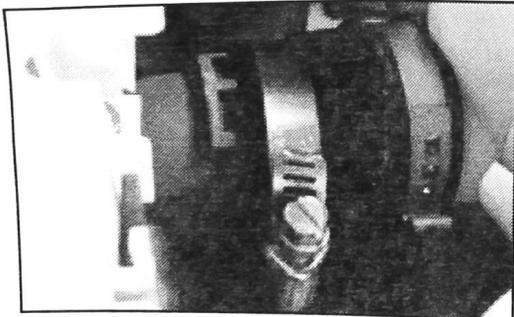

FIGURE 8
- d. Make sure the clamp is properly located in the groove on the hose. See Figure 8.